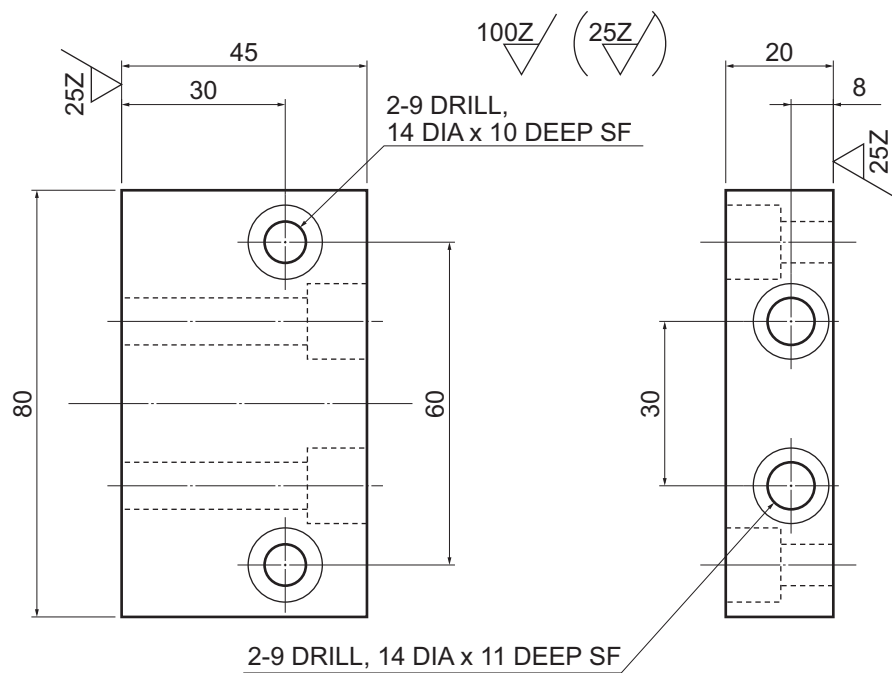

Figure 1-3. Fixture Block A
- Fixture block A, quantity 2 (see **Figure 1-3**)